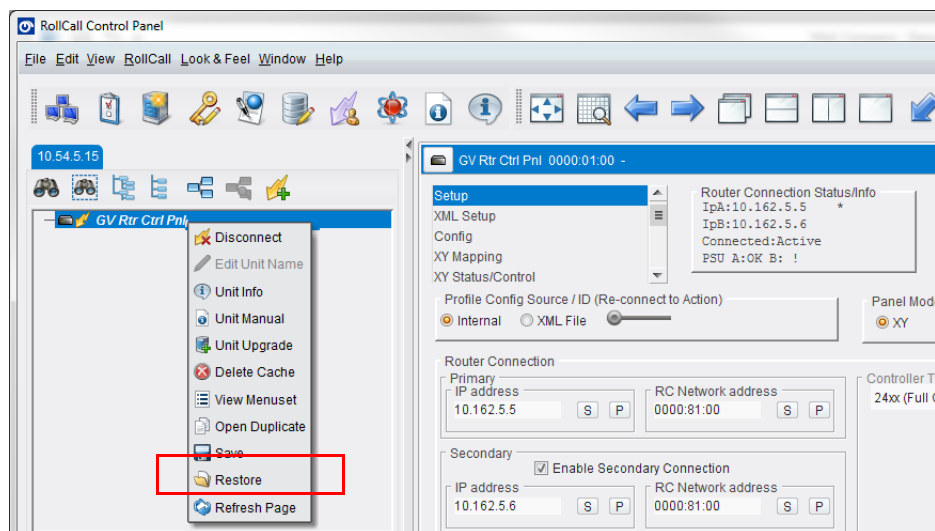

Fig. 6-21: Right-Click Pop-up Menu - Restore
- 2 Right-click on the router control panel's unit name and click **Restore** in the pop-up menu. See Figure 6-21.